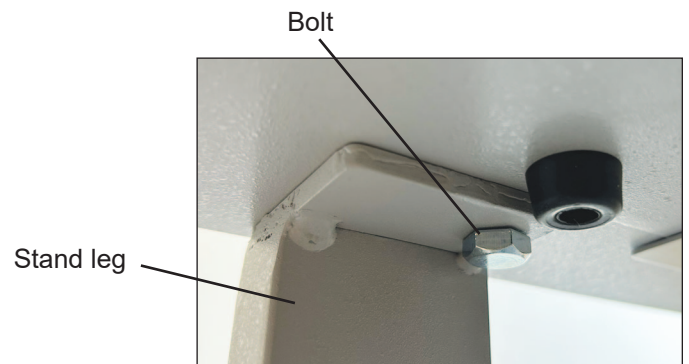

Fig. 6
- Secure the cutter base to the stand with the remaining four bolts. (Fig. 6)